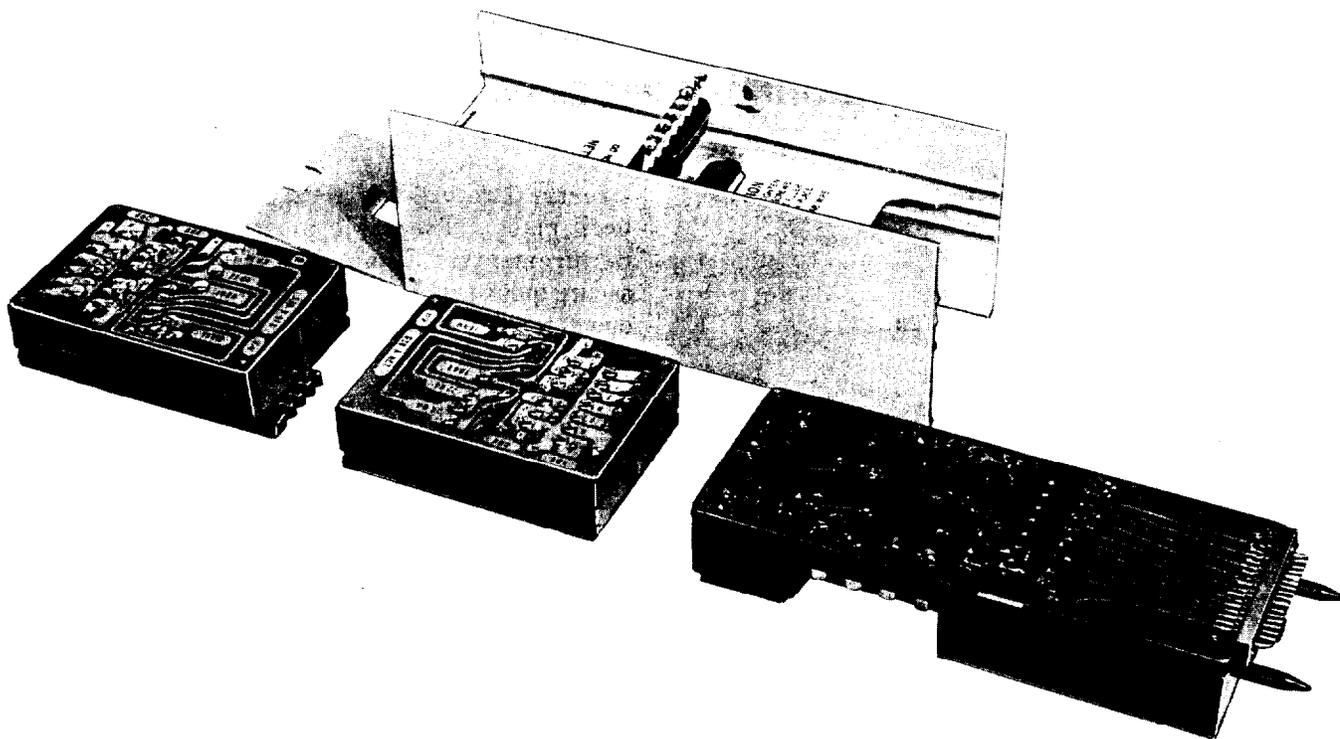

Fig. 1—Exploded View of E6 Repeater
2.01 The E6 repeater gain-unit and connector block are mounted in the aluminum cover before shipment. The LBO networks are shipped separately and mounted in the covers by the telephone company. For terminal use, one LBO (830-type) network and one dummy LBO (832A) network are needed. For intermediate use, two LBOs (830-type) are used. The 830-type network slides into the cover and is secured by four screws on the connector block. These screws also make the required electrical connections between the gain unit and the LBOs. The dummy LBO is relatively small and is secured entirely by the four connecting screws. An exploded view of the repeater is shown in Fig. 1.